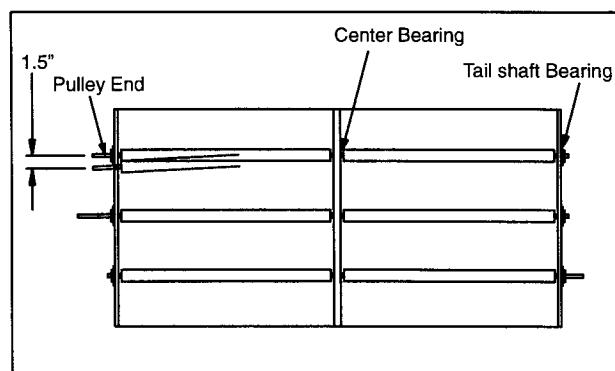

Figure 39 Flail Tubes
- c. When you approach this 1.5" limit, you must move center and tail shaft bearings to get flail tubes straight and parallel. See Figure 39. Never adjust the tail shaft end of the flail tube without moving the center bearing also.